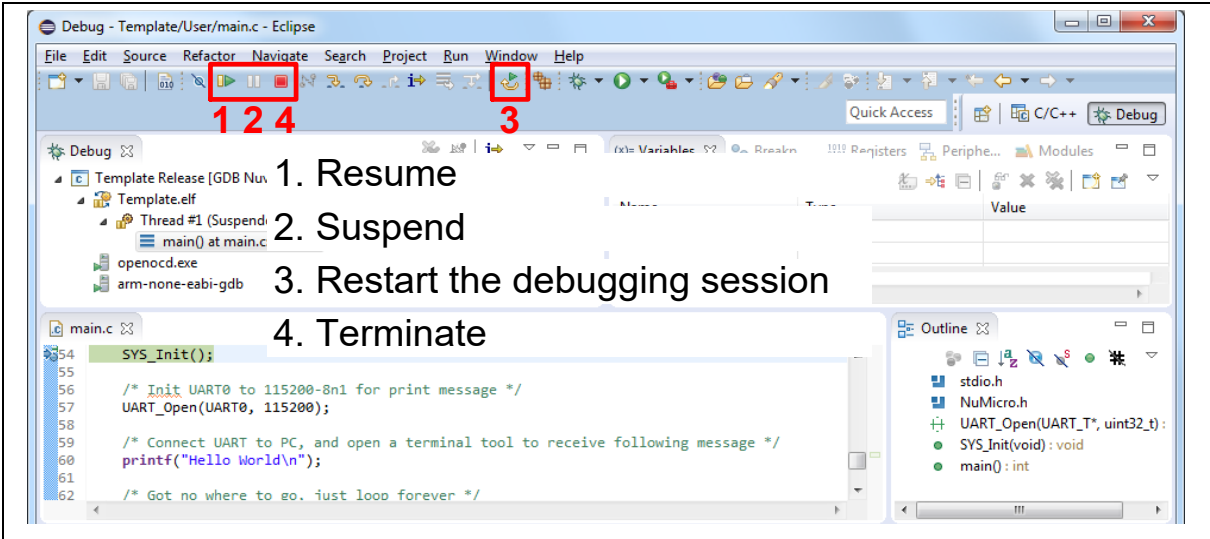
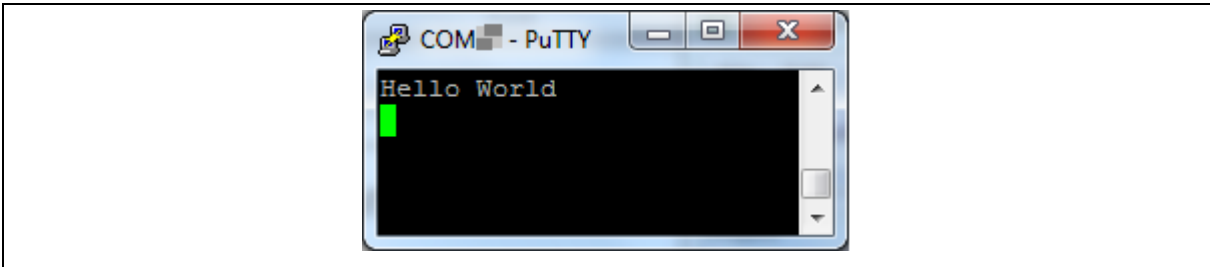

Figure 4-28 NuEclipse Debug Mode
Figure 4-29 Debug Message on Serial Port Terminal Windows
6. Figure 4-28 shows the debug mode under NuEclipse. Click “**Resume**” and the debug message will be printed out as shown in Figure 4-29. User can debug the project under debug mode by checking source code, assembly language, peripherals’ registers, and setting breakpoint, step run, value monitor, etc. For more information about how to use NuEclipse, please refer to the *NuEclipse User Manual*.